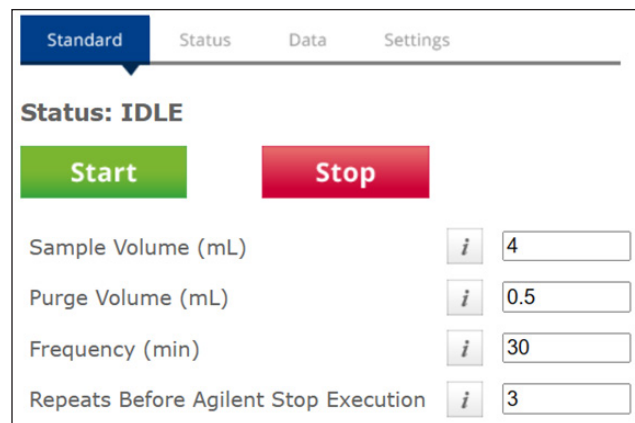

Figure 3A. Standard reactor control settings, accessible for each connected bioreactor vessel.
- **Flownamics control software:** To enable communication between the Flownamics control software and the Agilent Online LC Monitoring Software, the Web API (application programming interface) must be started. This can be done using Microsoft Windows services. The main screen of the Flownamics control software, which is accessed after user login, is shown in Figure 2. From this screen, the selection of the desired bioreactor vessel leads to the standard controls. These will start or stop the sampling and enable the general values for the experiment to be entered (Figure 3A). More details can be entered in the Settings tab (Figure 3B).